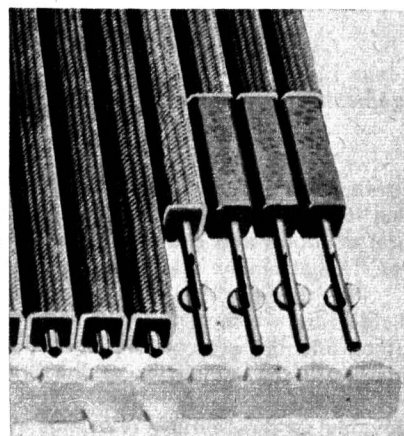

Figure 2. Portion of a tubular positive plate with a section cut away to show how the porous tubes are filled with a paste of active material.
**Plates:** A paste of lead sulphate ( $PbSO_4$ ) — made by mixing  $PbO_2$  and  $H_2SO_4$  — is applied to the positive and negative grids of flat-plate-type batteries (figure 1). In tubular-type positive plates (figure 2), the porous tubes are filled with lead sulphate. Manchester-type positive plates (figure 3) have rolled buttons (rosettes) of pure lead strips inserted into the holes of the grid structure. After the plates have thus been assembled, the chemical compositions of the metals of the negative and positives are made dissimilar by means of "formation." Plates are "formed" by placing alternate positives and negatives in tanks of dilute sulphuric acid. The positive plates are used as anodes and electrolytically oxidized. Negative plates are used as cathodes and electrolytically
The capacity of a cell also depends upon the area of the plates. However, this is not the area simply calculated from the width and height dimensions. Rather, it is the true surface area exposed to the electrolyte. For example, the Manchester positive plate has seven to 10 times the surface area its height and width would indicate in figure 3. Each serrated pure-lead rosette and the surface of the grid become lead dioxide after formation. The area of tubular positive plates (figure 2) also is many times that of flat-plate batteries of comparable size.